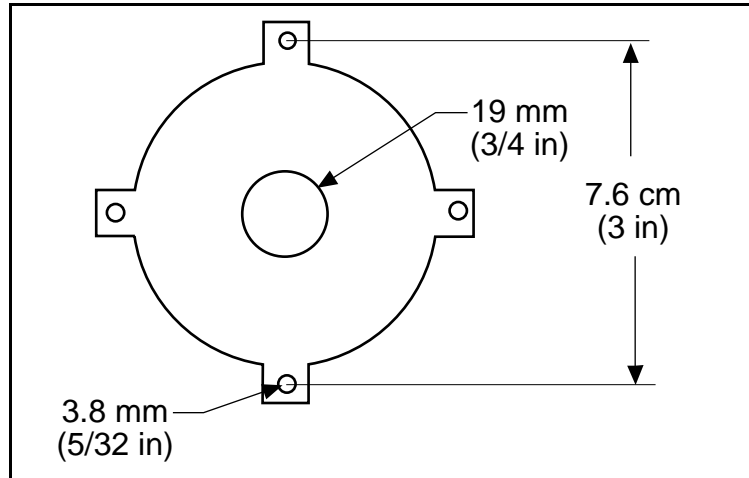

Figure 2.9 Mounting Hole Dimensions
1. Drill holes in the mounting surface using the antenna mounting template shown in Figure 2.9.